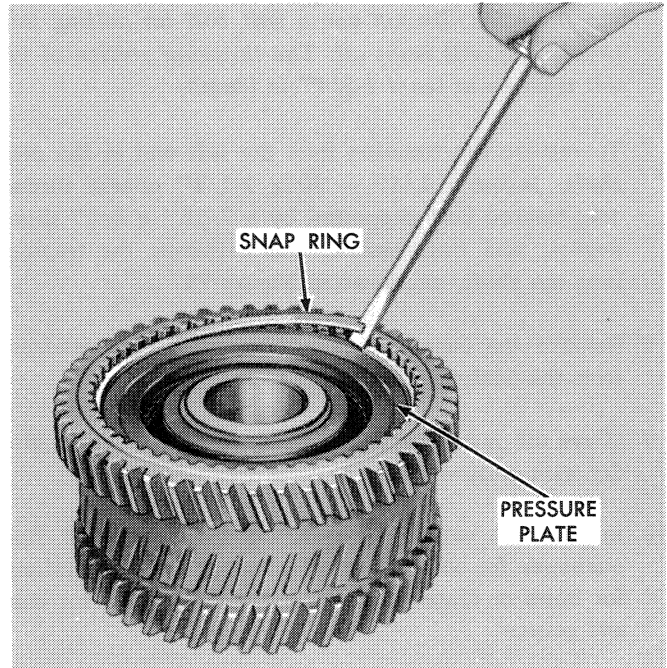

Figure 83
1. Remove the clutch pressure plate snap ring, as shown in Figure 83.